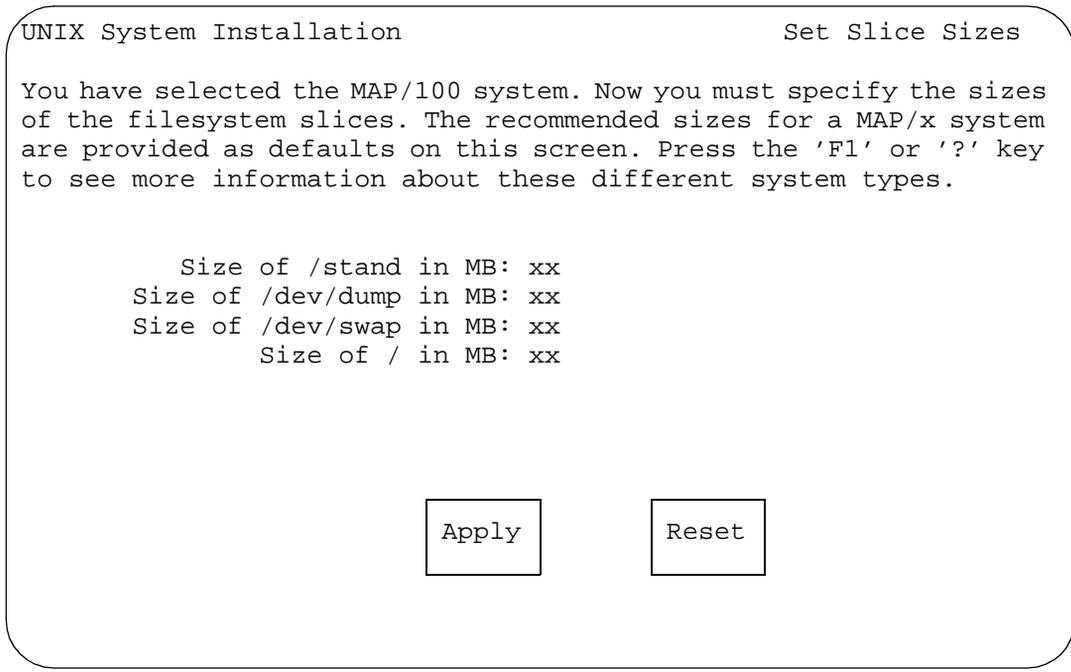

Figure 9-13. UnixWare Installation Set Slice Sizes Screen
The system displays the UnixWare Installation Set Slice Sizes screen (Figure 9-13).
1. Starting at the UnixWare Installation Set Slice Sizes screen (Figure 9-13), use the left and right arrows on your keyboard to move through the field selections. Use the down arrow to move to the next field.